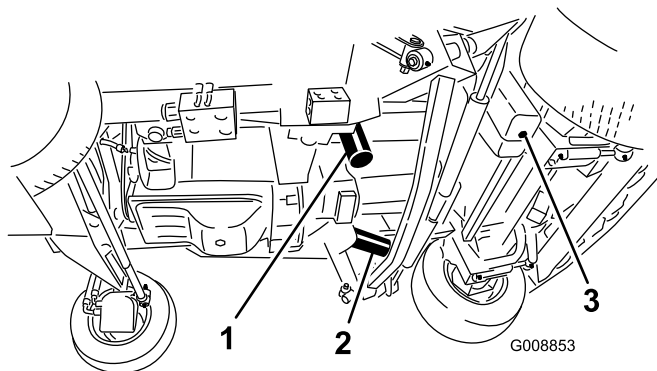

Figure 86
3. Remove the drain plug (Figure 86) from the bottom of the tank and let the hydraulic fluid flow into the pan. Install the drain plug when the hydraulic fluid stops draining.
4. Clean the area around the filter mounting areas. Place a drain pan under the filter and remove the filter (Figure 86).